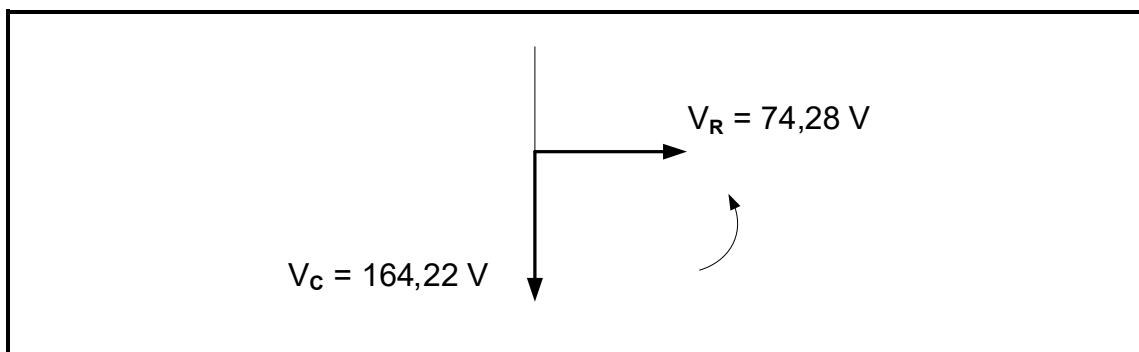

FIGURE 3.3
- 3.3 Redraw and complete the phasor diagram in FIGURE 3.3 below. When labelling, use the relevant calculated values from the calculations above. (5)